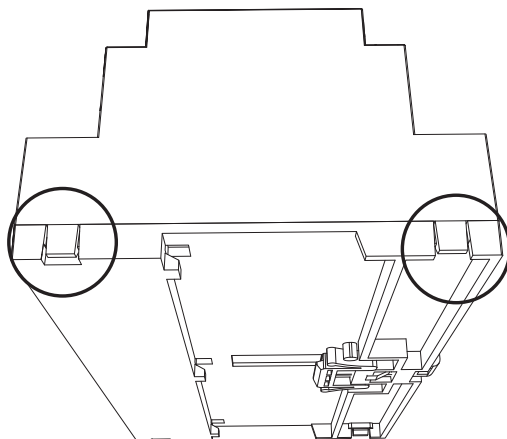

Figure 2 Tabs on enclosure
2. Insert a flathead screwdriver under the tabs on the enclosure, shown in Figure 2, in order to lift the tabs and remove the base.